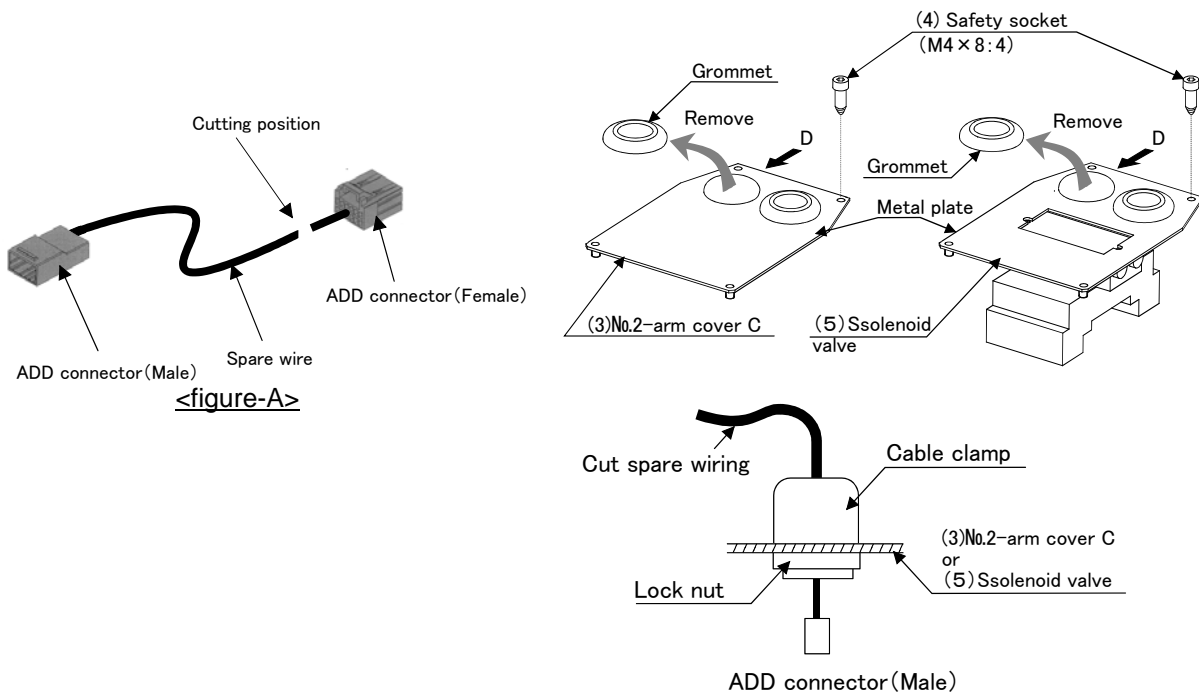

Fig.2-8 : Installation and connection of spare wiring
- 4) The connector is attached to spare wiring to both ends. Cut spare wiring near the connector (from the connector end to the about 10-20mm Refer to <figure-A> in Fig. 2-8), and let spare wiring pass to the cable clamp (customer preparation).
- 5) Remove one either among the grommets of No.2 arm cover C(3) or solenoid valve (5). After removing the grommet, the seal material which remained in the hole area of the sheet metal removes.